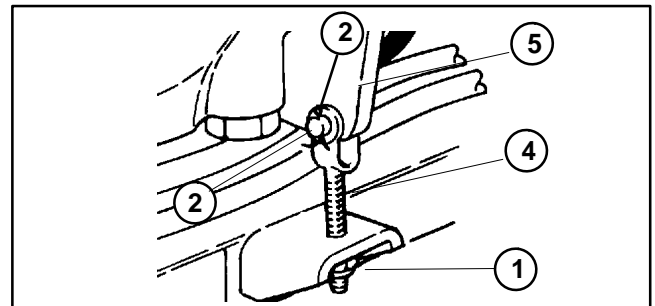

Figure 28
6. Loosen nut on adjusting yoke. Remove the cotter and clevis pins from the adjusting yoke. Tilt pump mount and remove the pump belt (Fig 28).
9. Tilt the pump mount and install the belt to the clutch and pump pulleys. Align the adjusting yoke with the pump mount holes and secure with the clevis and cotter pins (Fig. 28). Adjust the belt (see Adjustments section of Chapter 4 – Hydraulic System).